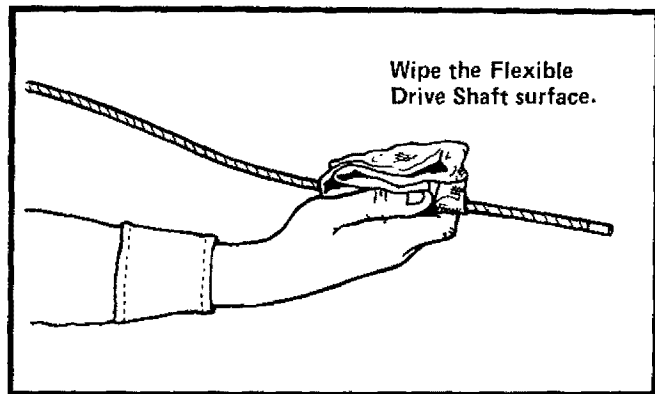

Figure 27
4. Apply a uniform coat of gear grease to the entire surface of the Flexible Drive Shaft. Figure 27.